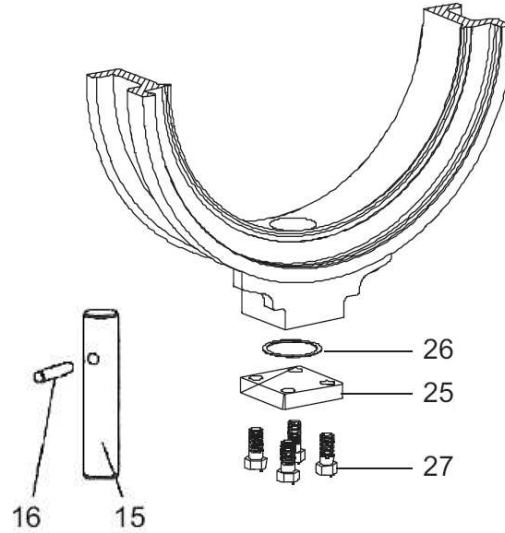

Figure 3 - Detail of Lower Stem & Bottom Cap
*(10" 300 and larger and 12" 150 and larger) see Figure 3